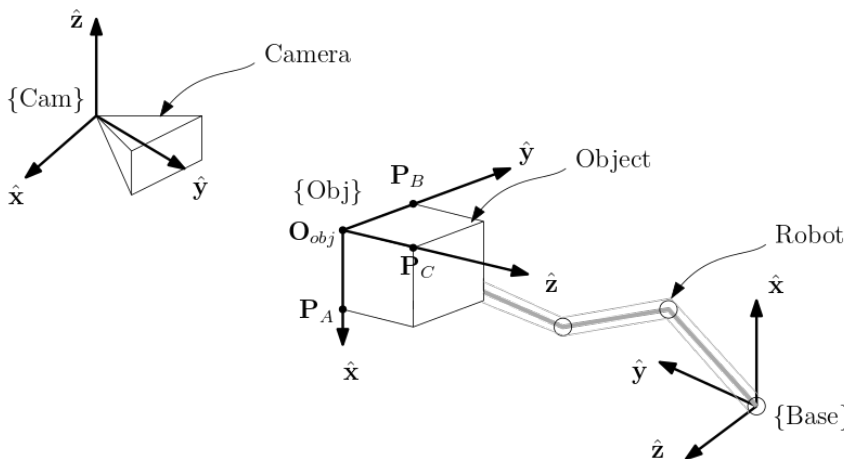

Figure 1: Figure for Qn. 1
1. (8 marks) An industrial robot uses camera to measure the position and orientation of a cubic workpiece as shown in Figure 1. Find the transformation  ${}^{\text{Base}}[T]_{\text{Obj}}$  if positions of four adjacent corners of the workpiece object, and the transformation matrix of the {Base} frame with respect to {Cam} frame are given as: